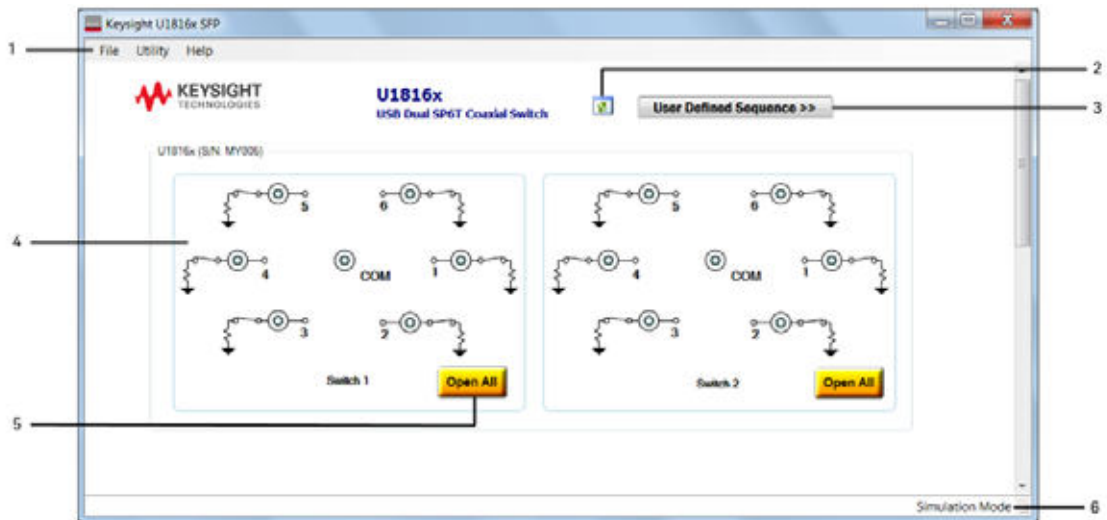

Figure 4-3 U1816A/C/E/F main SFP interface
- 4 The main SFP interface is shown in Figure 4-3 and described in Table 4-1.